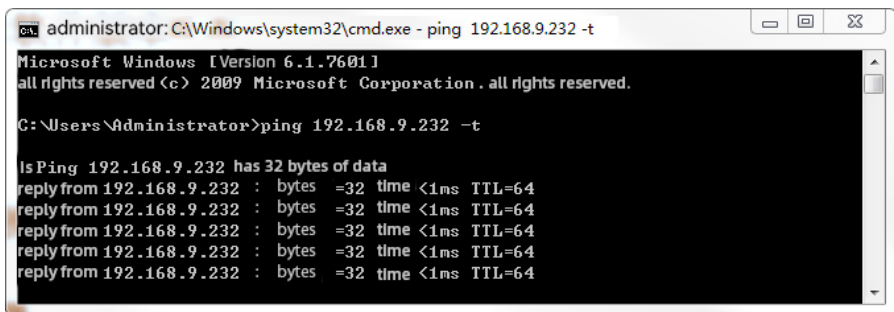

Figure 5.3 Ping Network
2) In the cmd interface, “ping” the IP address of the target reader, and confirm whether the network can be pinged. If it is successful, it means that the communication is normal, as shown in Figure 5.3 below.